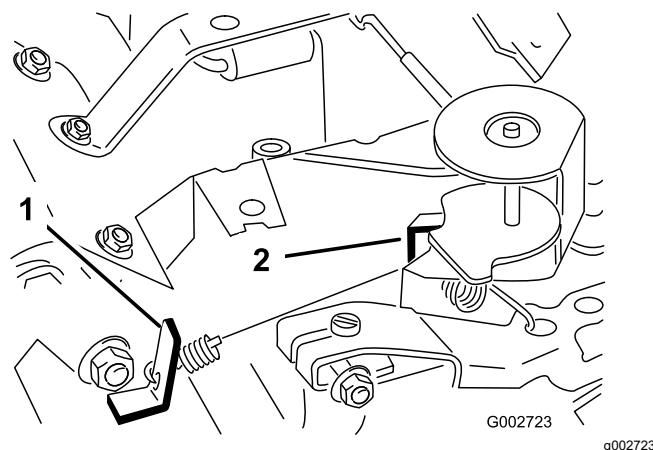

Figure 39
3. Bend the governed idle spring anchor tang (Figure 39) to attain an idle speed of 1,675 to 1,175 rpm.
6. Bend the high-speed spring anchor tang (Figure 39) to attain a high speed of 3,350 to 3,450 rpm.